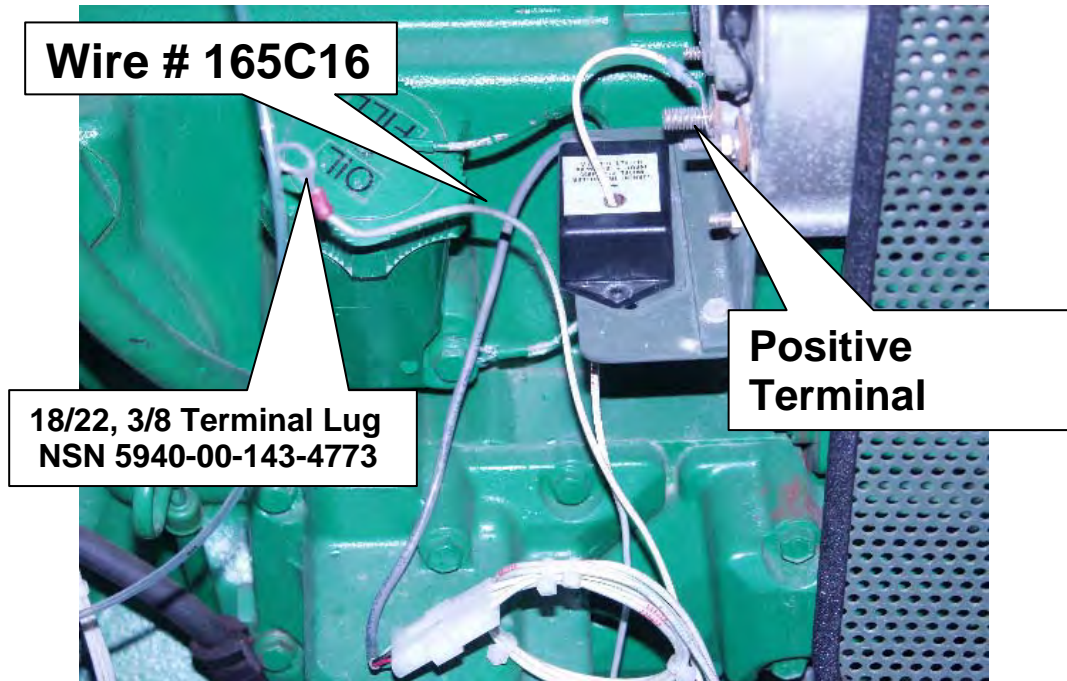

Figure 4 . Terminal Lug
4. Measure and cut wire # 165C16 with enough slack to reach the positive terminal of the battery charging alternator as shown in figure 4. Add a new lug terminal, 18-22 gauge, 3/8 stud size (NSN 5940-00-143-4773, pkg of 100), to the end of the wire # 165C16.